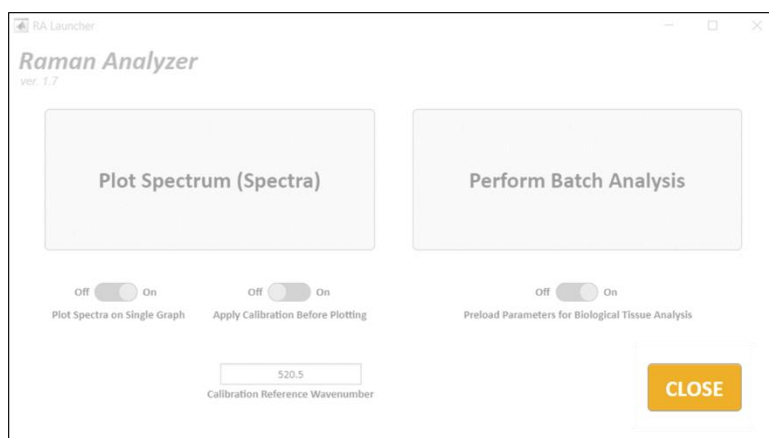

Figure 39: Click the 'CLOSE' button in the launcher window to exist Raman Analyzer.
- To exit Raman Analyzer, click the 'CLOSE' button on the launcher window (Fig. 39) or simply close the launcher window.